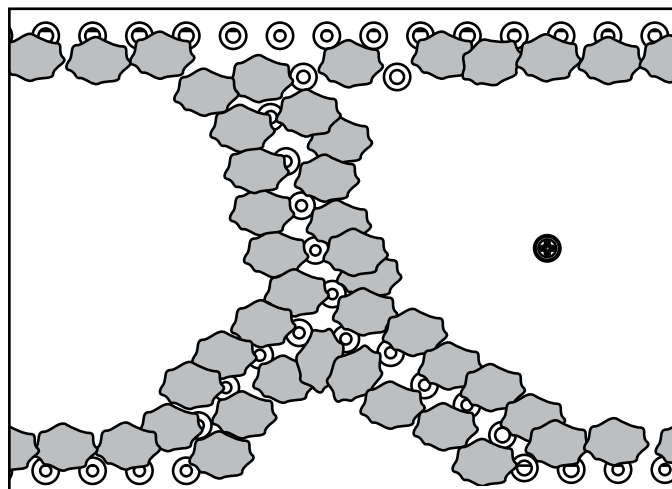

Figure 11.5 Embers Overlapping Burner Port Holes (LP only).
- **LP Only:** Using dime-size pieces of Glowing Embers®, overlap the burner ports as shown in Figure 11.5. The impingement created by the embers will help blend the fire.